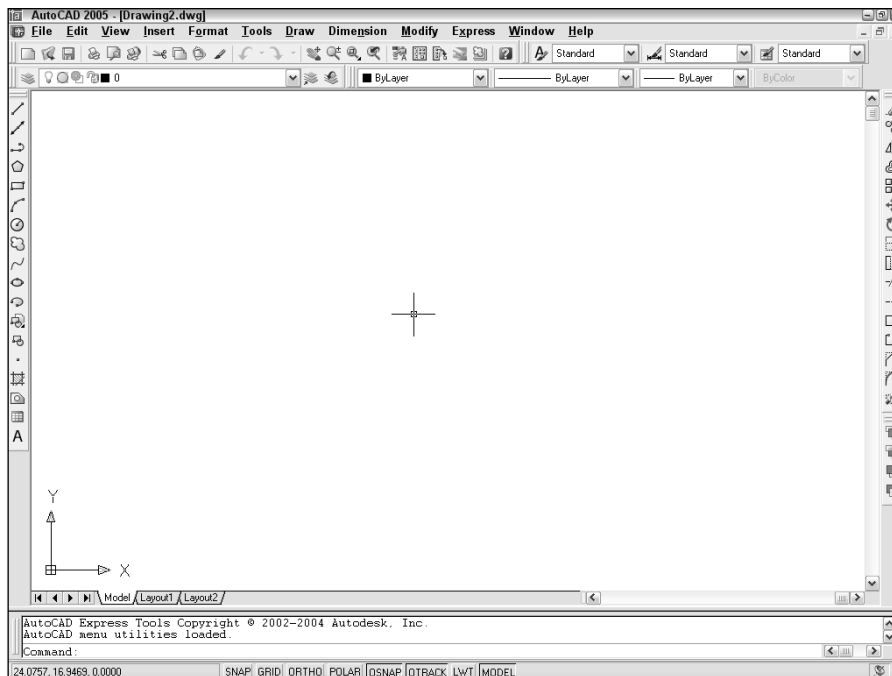

Figure 2-2: When you create a drawing based on a template, AutoCAD or AutoCAD LT opens a drawing called `Drawing2.dwg`.
4. Click Open. You now have a blank drawing named **Drawing2.dwg**, as shown in Figure 2-2.